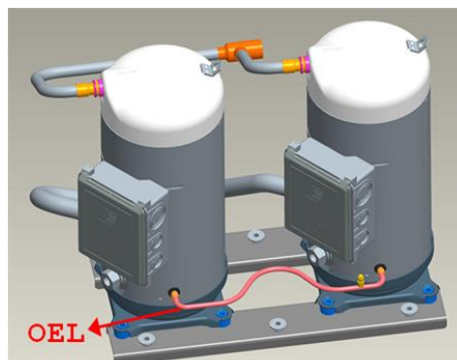

Figure 3: Tandem with 3-tube design (OEL)
- **OEL – Oil Equalization Line (Fig. 3):** By centring the OEL on the oil level line allowing for the free flow of oil between compressors. No gas balancing is intended.